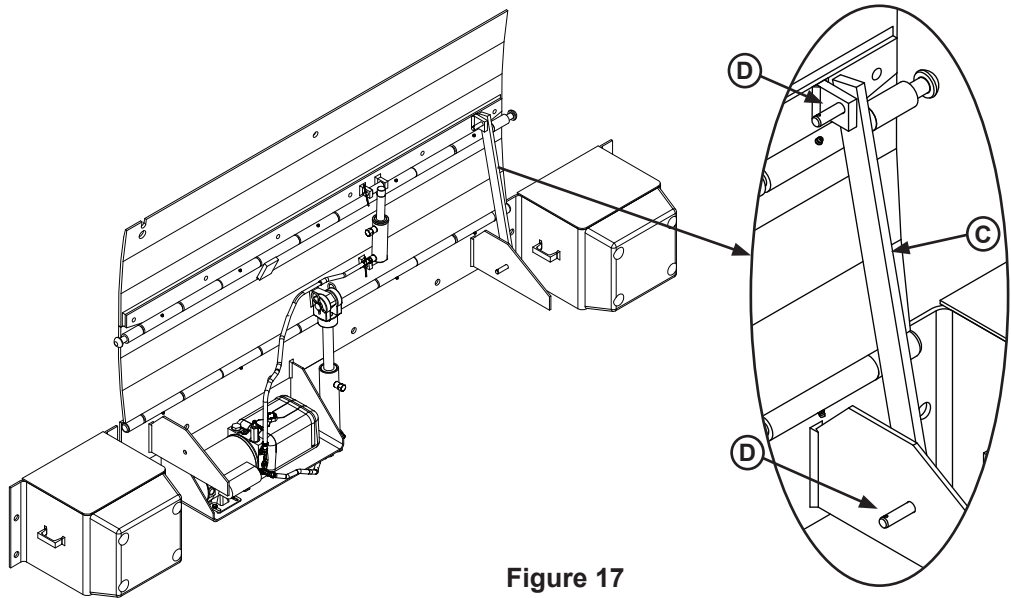

Figure 17
Whenever maintenance is to be performed under the dock leveler, support the dock leveler with the maintenance prop (C). Position the maintenance prop in its support gussets (D). See Figure 17.